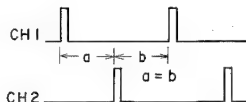

Fig. 27
- 4) Turn VR1 (Fig. 22 Power & Servo P.C Board) until the phase relationship between CH1 and CH2 is as shown in Fig. 27.
- 6) Turn VR2 (Fig. 22 Power & Servo P.C Board) until the phase relationship between CH1 and CH2 is as shown in Fig. 27.